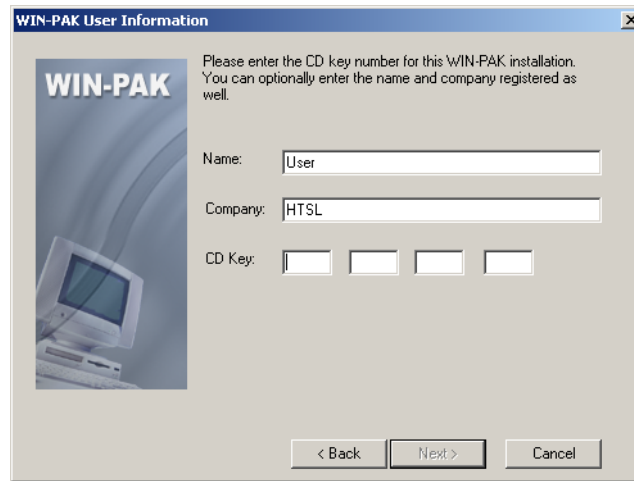

Figure 2-9 WIN-PAK User Information
5. Click **Next**. Figure 2-9 appears.